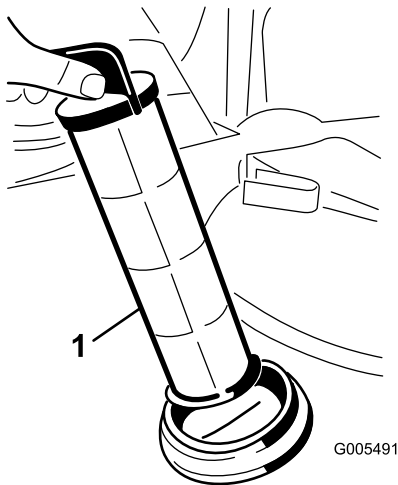

Figure 56
4. Pull the suction strainer out of the hole (Figure 56).